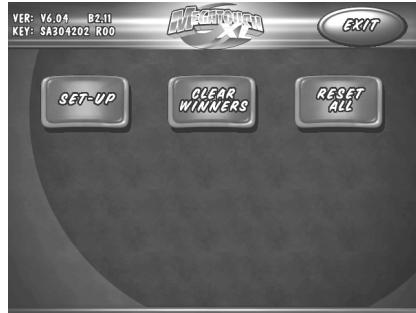

FIGURE 5 - TOURNAMENT CONTROLS SCREEN
3. At the System Settings Screen, touch the TOURNAMENT icon. This will take you to the Tournament Controls screen (see Figure 5). At this screen, touch the SET-UP icon to enter the Tournament Clock/Currency Screen.